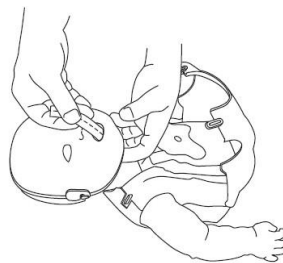

Figure 3
4. Insert the folded Lung-Bag into the mouth of the manikin (Figure 3).